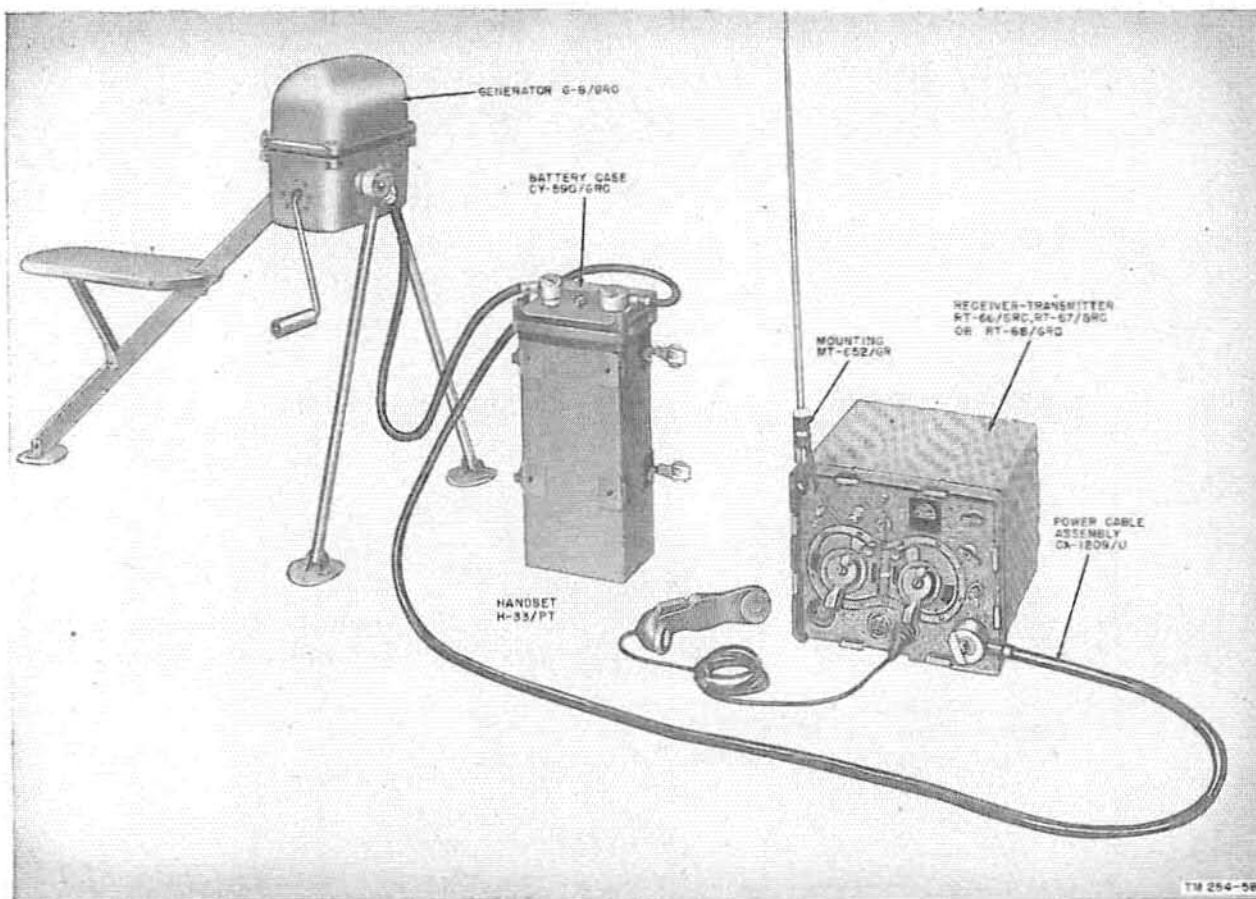

Figure 81. Field operation of Set 1 with Generator G-8/GRC and Case CY-590/GRC.
e. MOUNTING MT-652/GR. Mounting MT-652/GR (fig. 81 or 83) is used to hold the antenna masts used in field installations. The overhanging flange of the receiver-transmitter front panel has a boss which will accept the base of Mounting MT-652/GR. When the mounting is secured, the mast sections supplied with the modification kit (f below) can be screwed into the mounting. A rubber-covered lead-in wire, which is part of the mounting, is used to connect the antennas to the ANT post on the receiver-transmitters.
134. Operation of Set 1 with Generator and Battery Case (fig. 81)
b. Set up the generator, battery case, and receiver-transmitter as illustrated in figure 81. Refer to the manual supplied with the generator for detailed information on that unit. Turn the OFF-ON-REMOTE switch of the battery case to the OFF position.